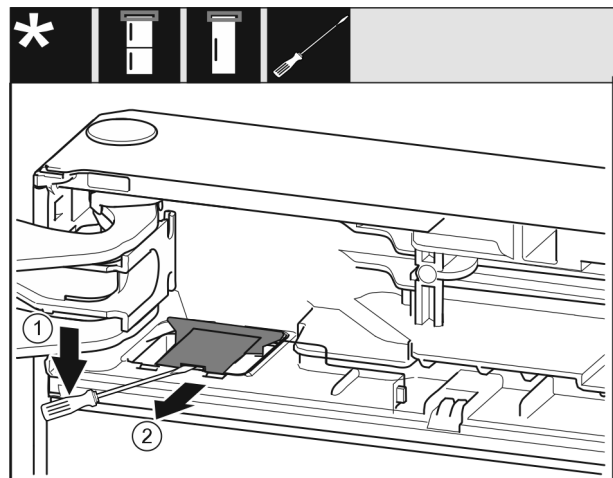

Fig. 9
- Unlatch the cover with a slotted screwdriver and lift it up. Fig. 9 (1)
- Take out the cover. Fig. 9 (2)